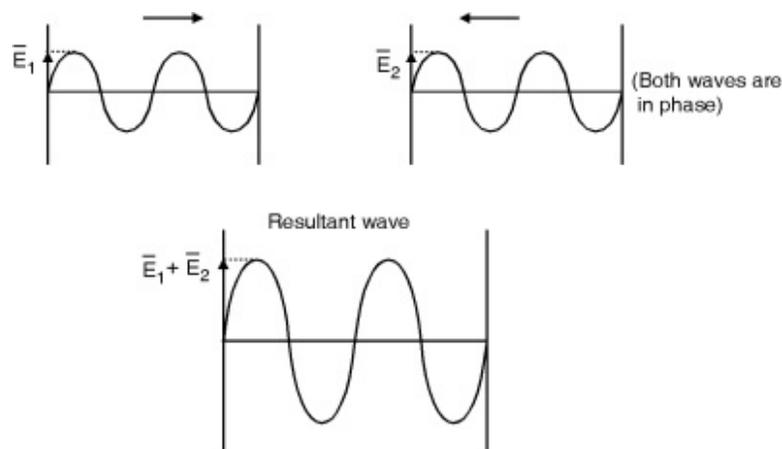
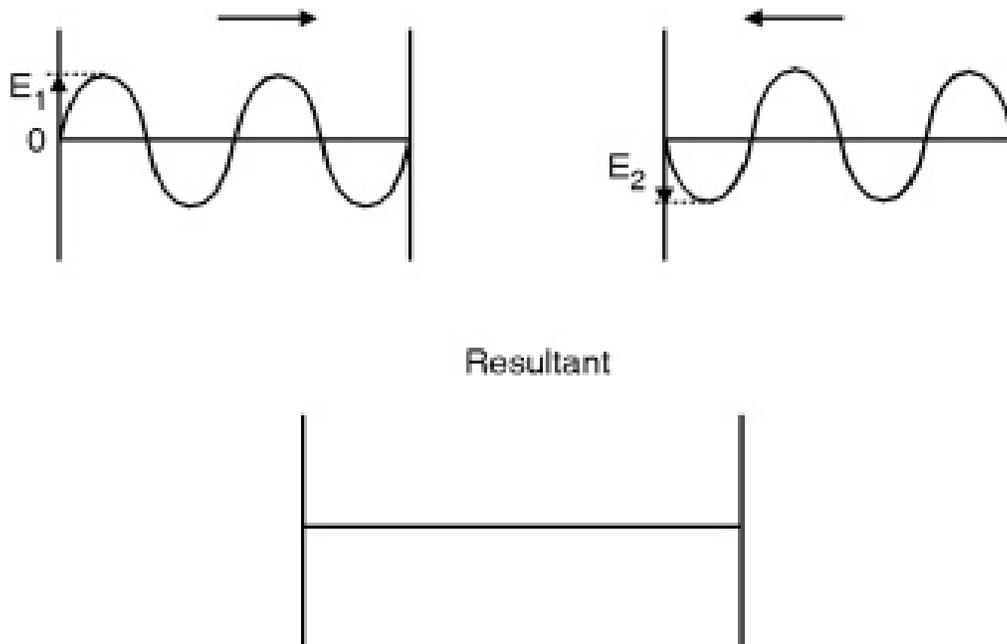

Fig. 4.8.2 : Constructive interference
Fig. 4.8.3 : Destructive interference
- A laser device consists of an active medium bound between two mirrors or highly reflecting surfaces as shown in Fig. 4.7.1. These surfaces reflect the photons to and fro through the active medium. A photon moving in a particular direction represents a light wave moving in the same direction. Thus the two mirrors along with the active medium form a cavity inside which two types of waves exists, one type comprises of waves moving to the right, and the other one to the left Figs. 4.8.2 and 4.8.3.
- The two waves interfere constructively if there is no phase difference between the two (Fig. 4.8.2) But, their interference becomes destructive if the phase difference is $\pi/2$ (Fig. 4.8.3).